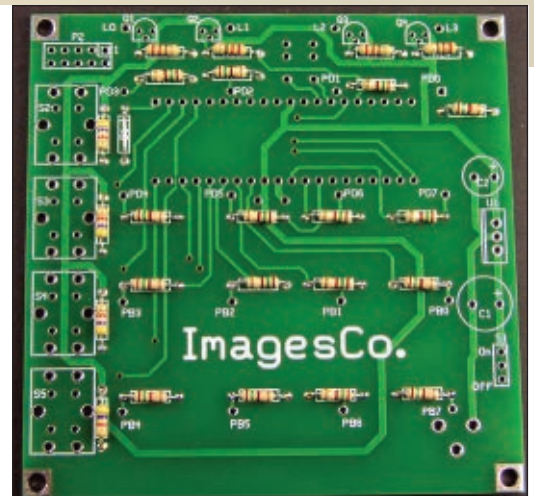

Figure 32. Top view PCB (populated with resistors).
1. Mount resistors R1 (150/180/220 ohms), R5-R16 (150/180/220 ohms), R21-24 (4.7K ohms), and D1 (tin wire jumper in its place) on the top side (see **Figure 32**).